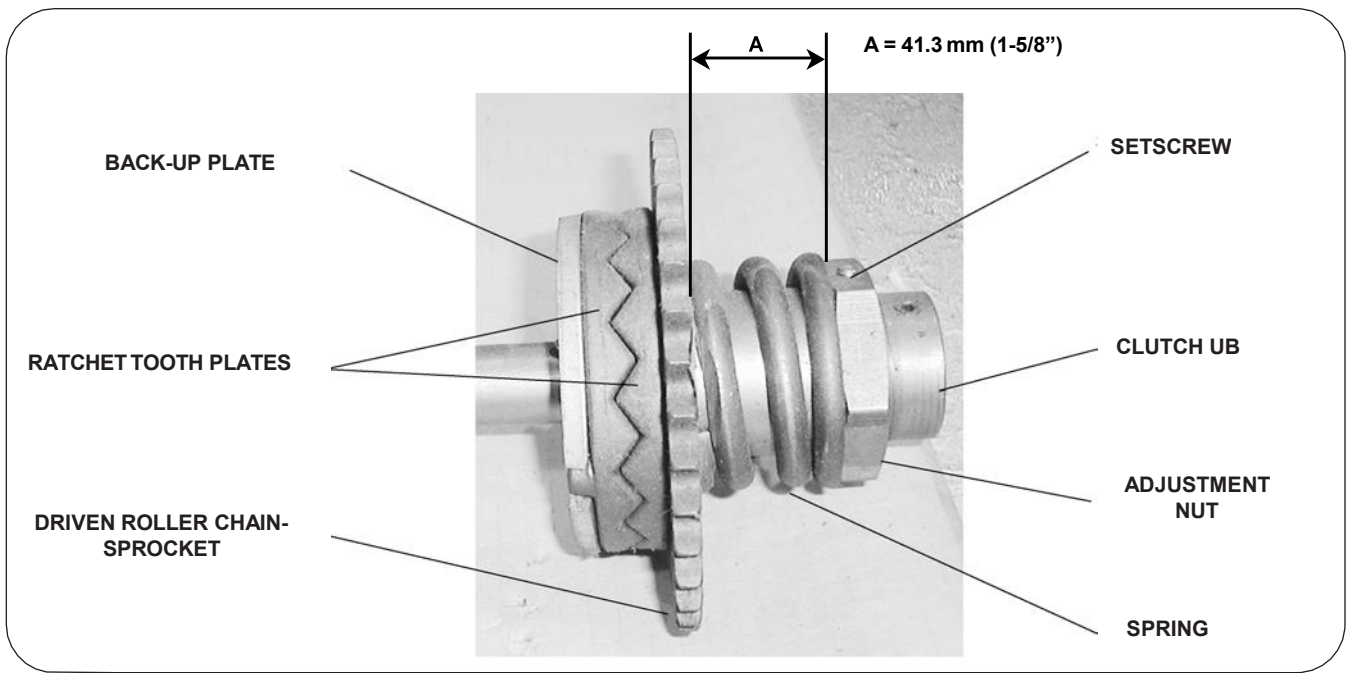

Figure 5. Ratchet Slip Clutch
This unit is preset at Jorgensen Conveyors, and should only require resetting if clearing the overload does not stop the ratcheting. Refer to Figure 5 and proceed as follows:
**(41.3 mm) (A, Figure 5). Do not compress the spring to anything less than 1-1/2" (38.1 mm) because this would disable the clutch.**